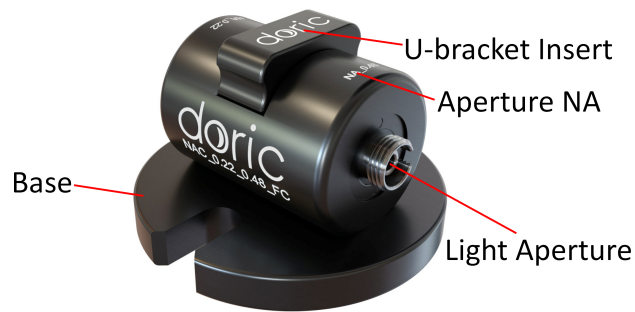

Figure 1.2: Numerical Aperture Converter
- The **Light Apertures** (Fig. 1.2) are used to accept light from a fiber and inject light into another fiber. Each aperture is marked to indicate the **NA** of the patch cord that should be connected to it.